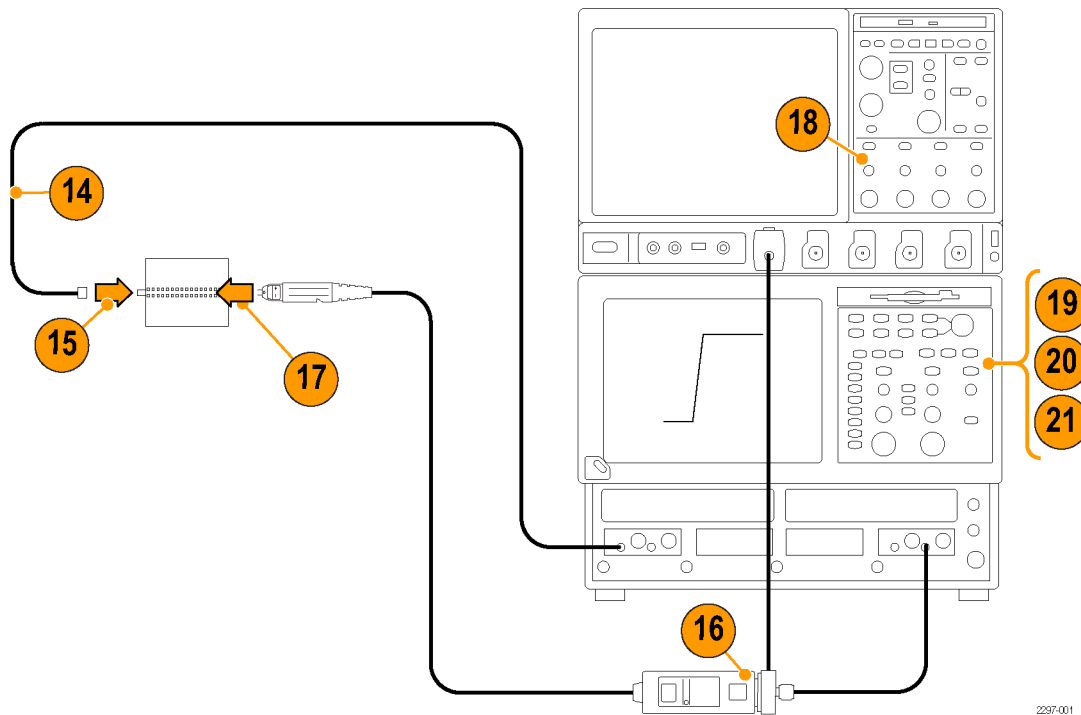

Figure 14: Probe rise time setup
14. Disconnect the SMA cable and BNC adapter from the Channel-1 side of the TekVPI Calibration fixture. (See Figure 14.)